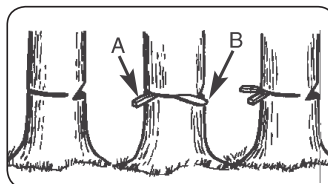

Fig. 10C
1. Use wooden or plastic wedges (G) to prevent binding the bar or chain (H) in the cut. Wedges also control felling (Fig. 10C).